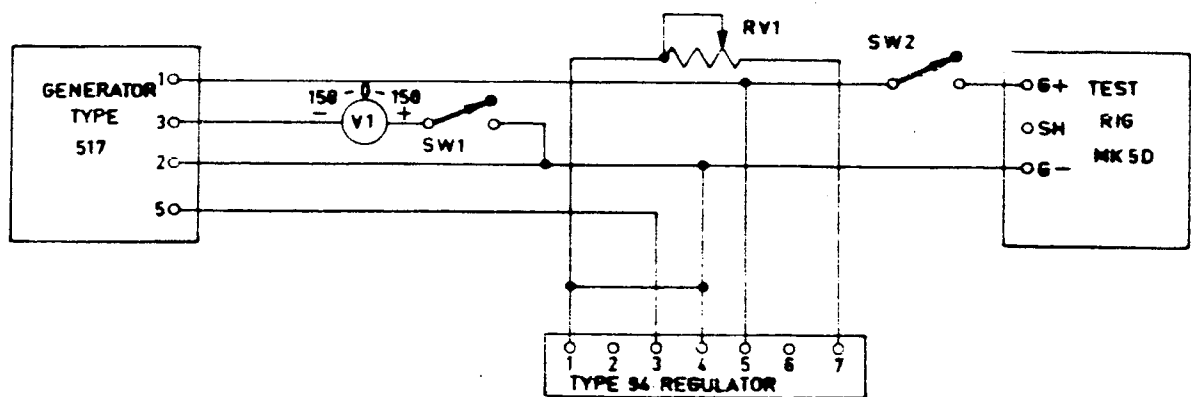

Fig. 2 Maximum speed test
7. (1) Connect the generator to the test circuit shown in fig. 2.